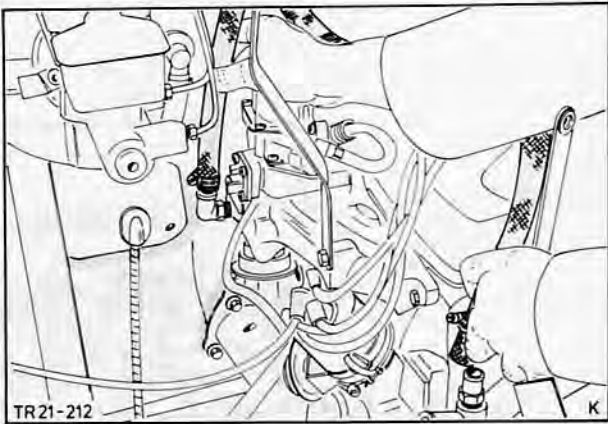

Fig. 22. Attach heater hoses ('A' engine)
23. Attach heater hoses to water pump and automatic choke or inlet manifold, Fig. 22.